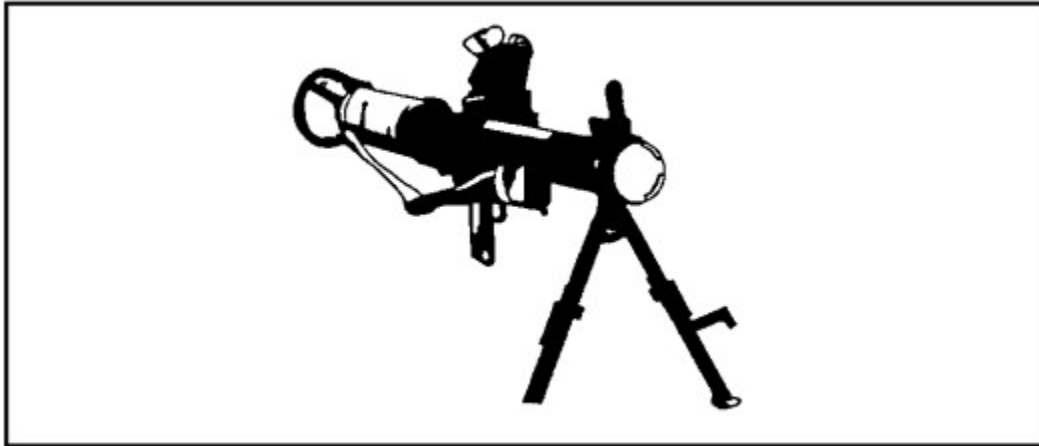

Figure 2-2. AT Grenade Launcher RPG-16D.
(3) Limitations. The RPG-7V requires a well-trained and experienced gunner to accurately estimate ranges and lead distances for moving targets. Crosswinds as low as seven miles an hour can complicate the gunner's estimate and reduce first-round-hit probability to 50 percent at ranges beyond 180 meters. An RPG projectile screen of chain-link fence will completely neutralize 50 percent of the rounds and degrade the penetrating capability of the remaining rounds. Reloading and reaiming the AT grenade launcher takes a minimum of 14 seconds. The RPG-7V has a conspicuous signature: flash, smoke, and noise. The unprotected gunner is extremely vulnerable to suppressive fires.
(4) Remarks. The first Soviet recoilless AT grenade launcher, the RPG-2, was derived from the World War II German Panzerfaust. The Soviets first fielded it in the early 1950s. The RPG-7, introduced in 1962, is a second-generation weapon employing a rocket-assisted projectile. The current version, designated the RPG-7V, is in service throughout the Warsaw Pact with the exception of Czechoslovakia. The folding version for airborne forces, introduced in 1968, was initially known as the RPG-8, but later redesignated the RPG-7D. A third-generation weapon, the RPG-16D, incorporates further refinements resulting from battle testing the RPG-7V in southeast Asia and the Middle East. It has replaced the RPG-7D as the standard squad AT weapon in Soviet airborne forces.
b. Antitank Grenade Launcher RPG-16D. The following paragraphs discuss the RPG-16D Grenade Launcher (shown in Figure 2-2).